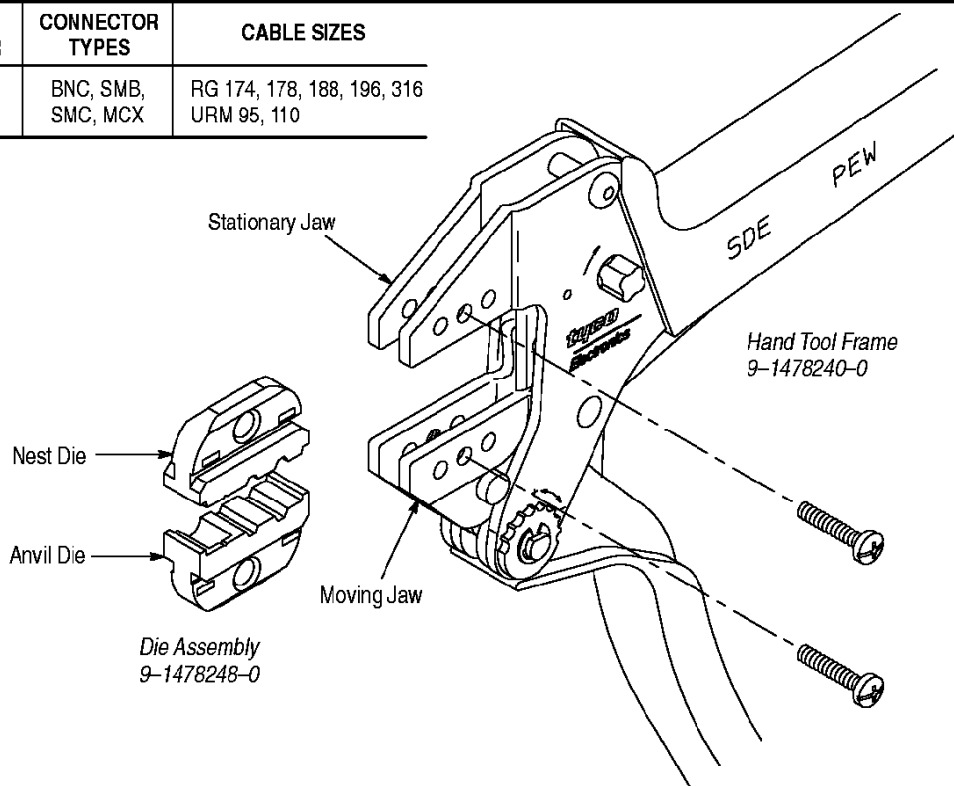

Figure 1
This instruction sheet covers the use and maintenance of GREENPAR Crimping Die 9-1478248-0 (in their various configurations – denoted by the dash number following the base part number), used in Hand Tool Frame 9-1478240-0. The die crimps plug connectors onto coaxial cable. See Figure 1 for a list of the connector types and cable sizes the die set can crimp.
## 2. DESCRIPTION (Figure 1)
2. See Figure 1 for normal orientation of the dies. Insert the dies inside the tool jaws and align the retaining screw holes.
- Change hand tool frame part number 1583203-1 to 9-1478240-0 in Figure 1 and Section 1, INTRODUCTION